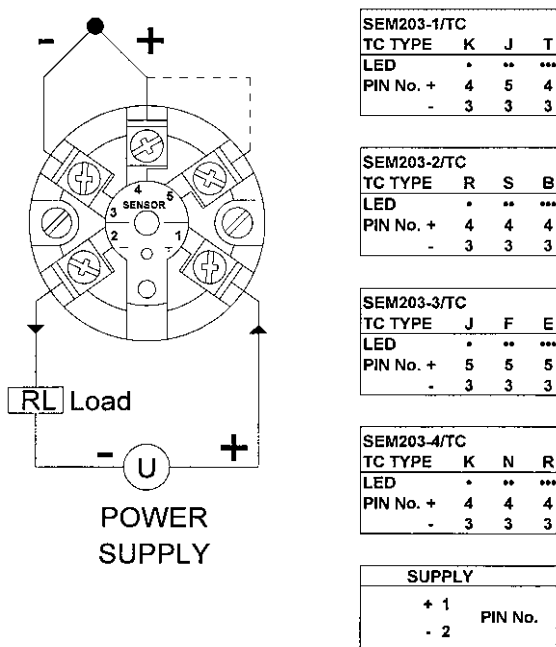

Figure 2
Figure 2 shows the method of connection to provide a 4-20 mA current loop output. The TC sensor shown would normally take the form of a probe assembly. The output loop shows a power supply, used to provide loop excitation, the transmitter, and a load, all connected in series. The load symbol represents other equipment in the loop e.g. indicators, controllers, loggers etc.
Refer to Figure 2 and 3 for correct connection and type setting details, this information is duplicated on the transmitter side label.
* Connect as figure 2 table.